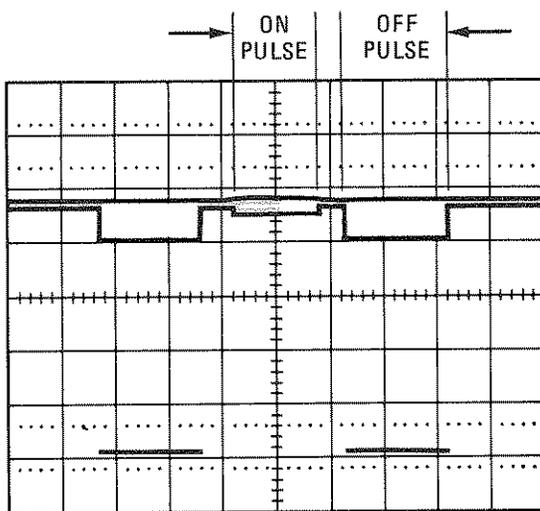

Figure 5-42. On/Off Pulse of Correctly Adjusted Circuit
7. Press **INTENS MKR**. Connect the oscilloscope probe to A7TP2. First, ensure that marker OFF pulses exist on both sides of the marker ON pulse. (Decreasing the oscilloscope **BEAM INTENSITY** will expose the marker ON pulses.) (See Figure 5-42.) While the crystal markers may function properly without them, the marker-off pulses provide a safeguard against false markers appearing on the display.